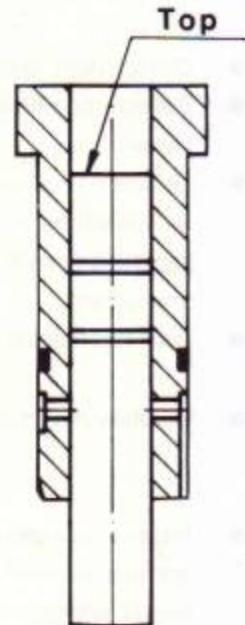

Abb. 14
- Insert the piston from top to bottom so that the mark "Top" faces upward. (see fig. 14).
(Siehe Abb. 14).